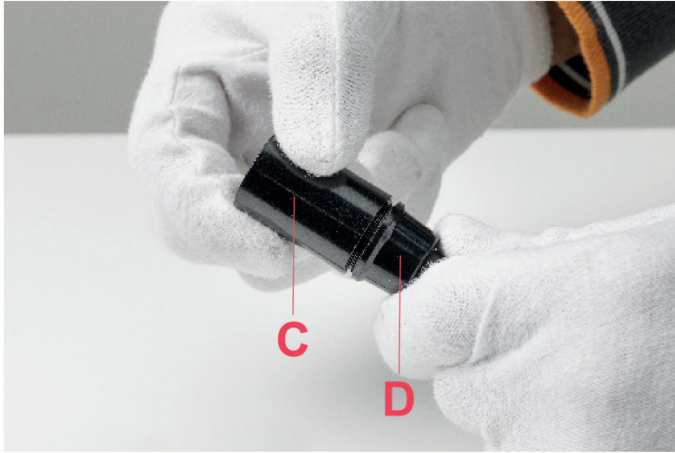

Fig.5
Fasten the sleeve (C) on the support (D). (Fig.5 page 3)